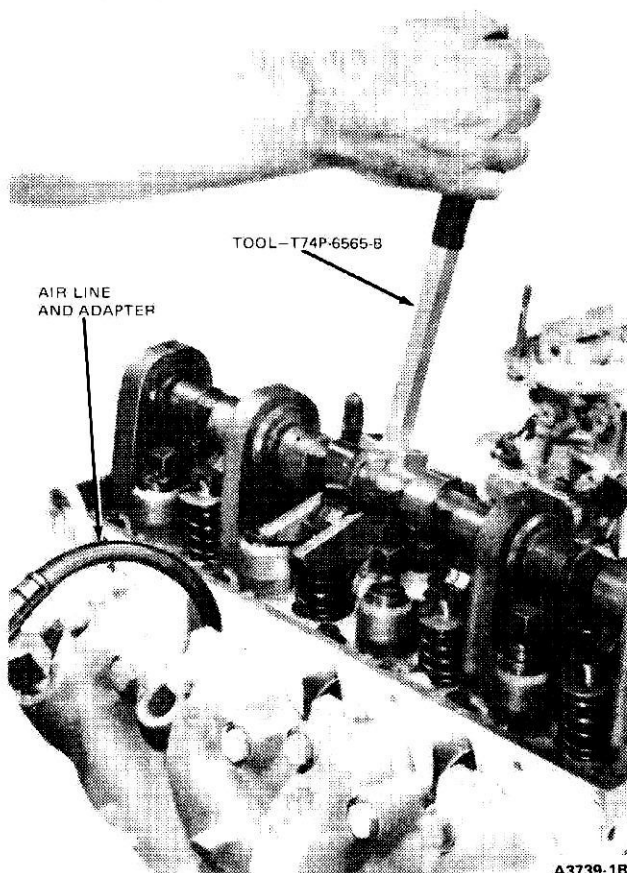

FIG. 12 Removing Valve Spring Retainer
If the valve or valve seat has not been damaged, valve springs, seals and retainers may be replaced by holding the affected valve against its seat using compressed air. Use the tool shown in Fig. 12 installed in the spark plug hole. A minimum of 140 PSI line pressure is required. If air pressure does not hold the valve shut, the valve is damaged or burnt and the cylinder head must be removed and repaired (Part 21-01).
3. Using the tool shown in Fig. 12, compress the valve spring and remove the retainer locks, spring retainer, and valve spring. Remove and discard the stem seal.